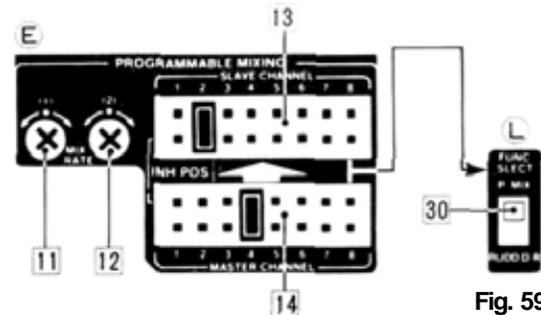

Fig. 59
## EXAMPLE 2. Fig. 59.
1. Set the Mixing Board as shown in Fig. 59 to provide mixing from Rudder -> Elevator.